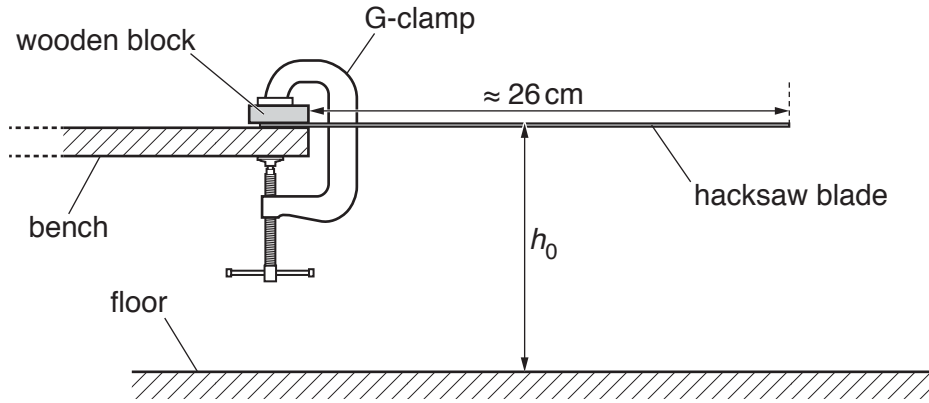

Fig. 2.1 (not to scale)
- (a) • Assemble the apparatus as shown in Fig. 2.1.
- The vertical distance from the floor to the top surface of the hacksaw blade is h_0 , as shown in Fig. 2.1.